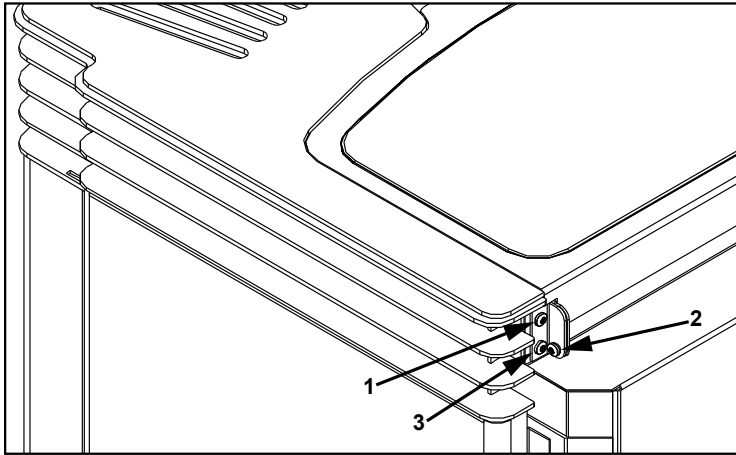

Figure 32: Installing Hopper Lid.
1. Attach the hopper brackets to the back of the unit with a screw in each top holes of the brackets (#1 in Figure 32). Do not tighten these screws until all six (6) screws are in place.
2. Lay the hopper lid in place, slide the bushing into the bracket, and attach the lid to the brackets (#2 in Figure 32). The screw must go through the bushing in the bracket then into the hopper cover.
3. Install the screw in the bottom hole on both brackets (#3 in Figure 32).
4. Let the hopper lid lay flat on the stove top then tighten the four (4) bracket screws.